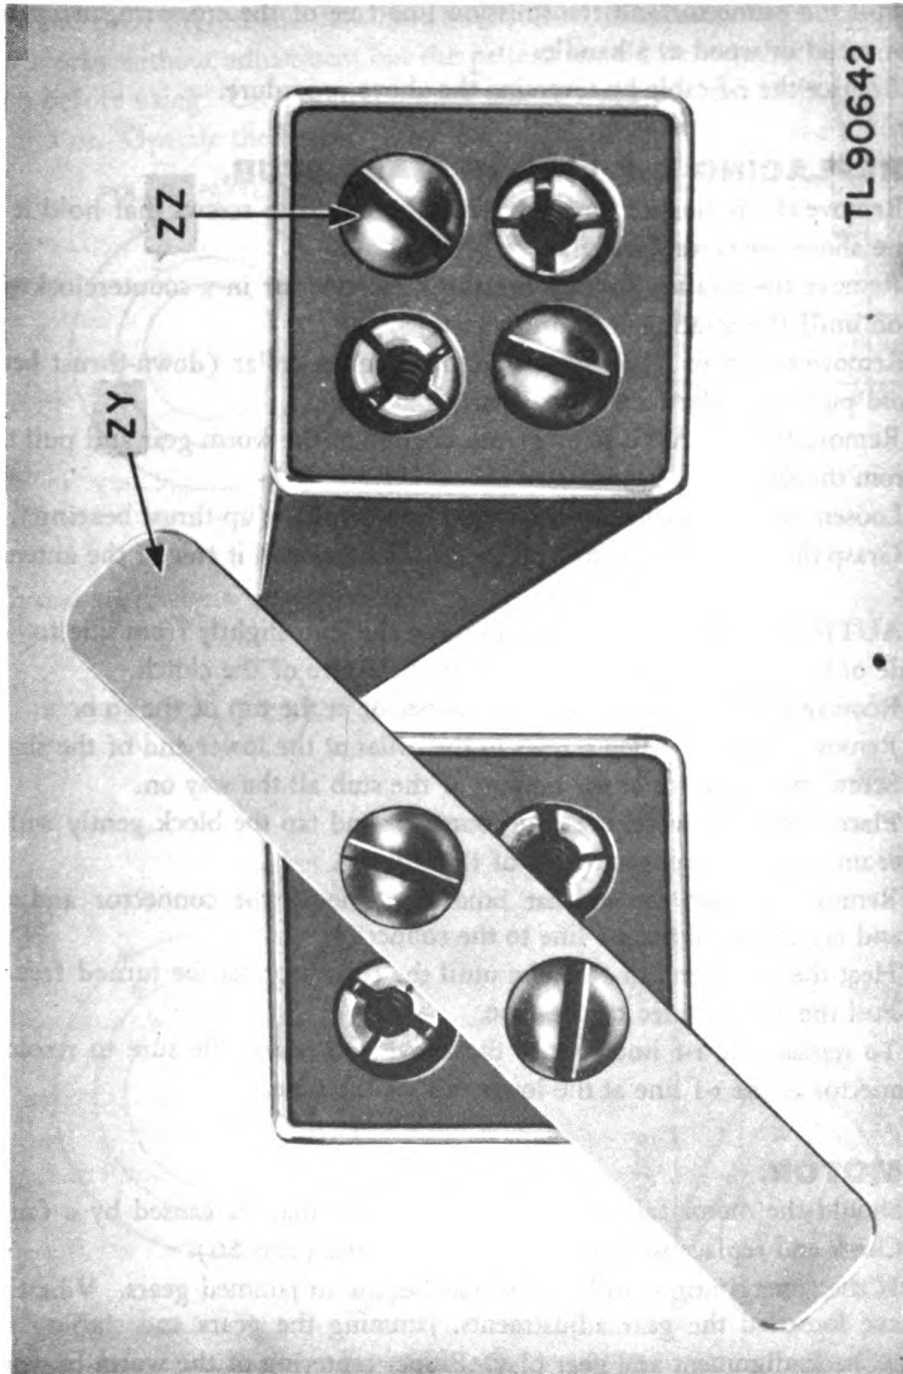

Figure 38. Removing connector from crossarm.
- e.* Drill two holes in a small piece of metal or wood (*z* and *y* in fig. 38) spaced so as to coincide with the holes in the connector.
- f.* Bolt the piece of wood or metal to the connector as shown in figure 38.